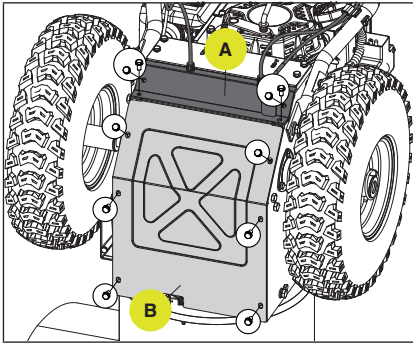

Figure 73
3. Remove the base frame covers (A and B) from the underside of the snowblower by removing the ten M6 × 12 bolts. (Fig. 73)